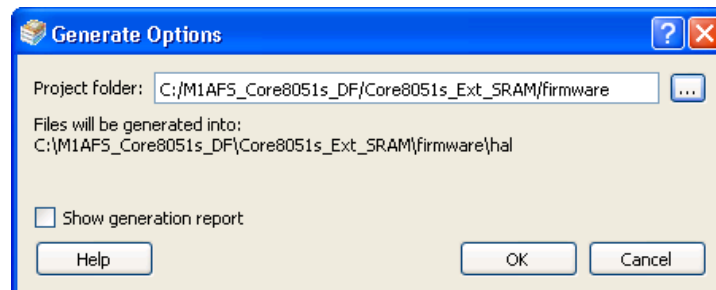

Figure 13 Generate Options
- Save the generated drivers at: C:\M1AFS_Core8051s_DF\Core8051s_Ext_SRAM\firmware, as shown in Figure 13.